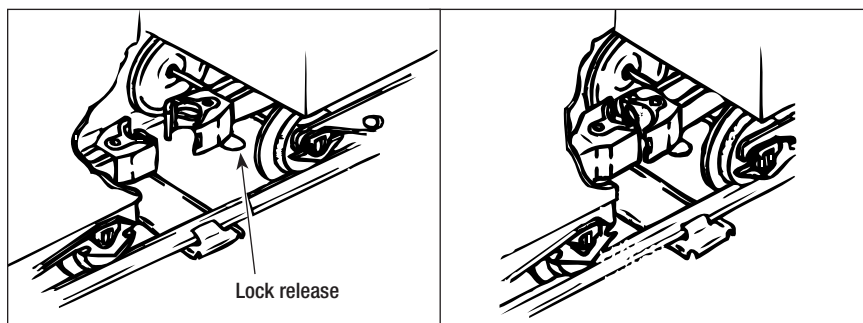

Figure 6. Coupler operation
**W**hen coupling your cars, at least one of the mating couplers must be open as shown at the left in Figure 6. Press down on the lock release to open the coupler, then push the cars toward each other until they lock together.